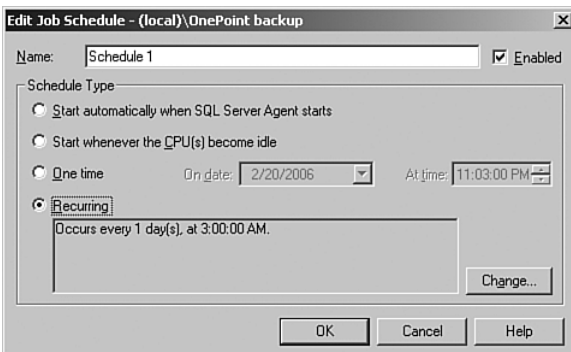

FIGURE 12.5 The Edit Job Schedule screen.
5. Define a schedule for the OnePoint database backup. If you click the Schedule check box, SQL Server automatically creates a default schedule of weekly. The recommended backup frequency for the OnePoint database is nightly, so click on the ellipses (...) next to the schedule to proceed to the Schedule screen shown in Figure 12.5.